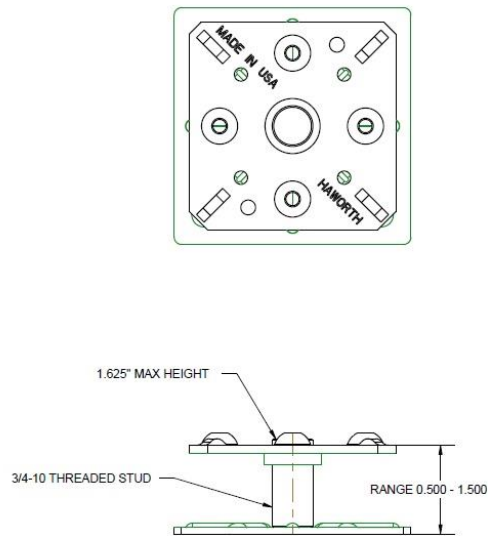

FIGURE 4 – Ultra-Low Pedestal
3.2 Pedestals: The floor support pedestals consist of a square steel base plate of various dimensions welded to square or round vertical pedestal posts. The heights of the pedestals range from 1-1/2" to 60". See Table 3 and Figures 4 - 13 for pedestal details. The pedestals may be either anchored mechanically or with approved adhesives to clean solid structural concrete surfaces.